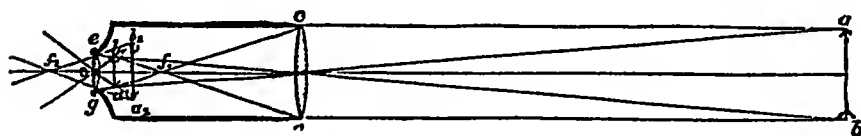

FIG 104
**The astronomical telescope**—When we magnified with a convex lens the real images obtained on p 118, we illustrated the principle of the astronomical telescope. The rays from the distant object  $ab$ , after refraction by the convex lens  $cd$ , give a real inverted image  $a_1 b_1$  (fig 104). By placing the lens